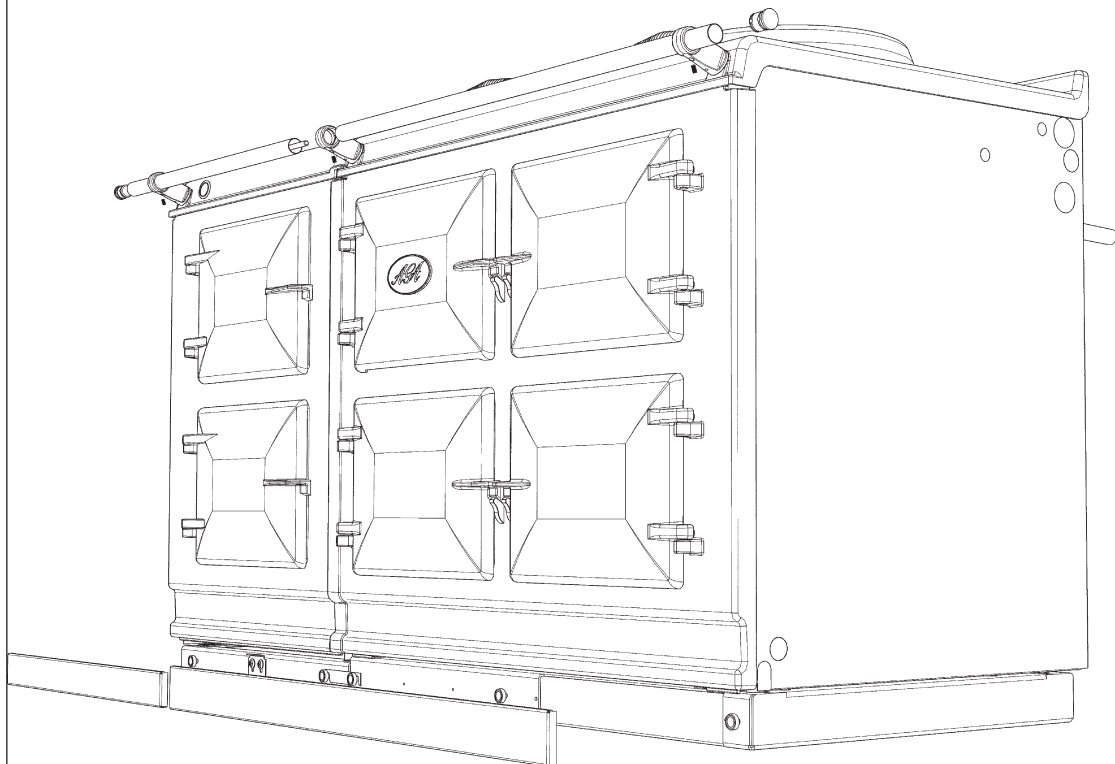

Fig. 17
11. On 5 oven appliances, fit allthread stud into the insert located in the one end of the handrail, then feed the handrail through the bracket (ensuring that the allthread stud is protruding from the right hand side of the hotcupboard handrail) and screw the handrails together. (See Fig. 17).
14. Finally, fit the plinth fascia to the magnets on the front of the plinth, making sure that on 5 oven appliances the right hand side of the module plinth fascia sits against the left hand side of the AGA Total Control plinth fascia leaving no gap between. Make sure that the plinth fascias are centrally located and do not overhang either appliance. (See Fig. 17)